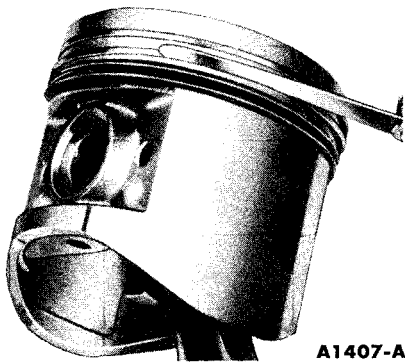

FIG. 68—Ring Side Clearance
6. Check the ring side clearance of the compression rings with a feeler gauge inserted between the ring and its lower land (Fig. 68). The gauge should slide freely around the entire ring circumference without binding. Any wear that occurs will form a step at the inner portion of the lower land. **If the lower lands have high steps, the piston should be replaced.**